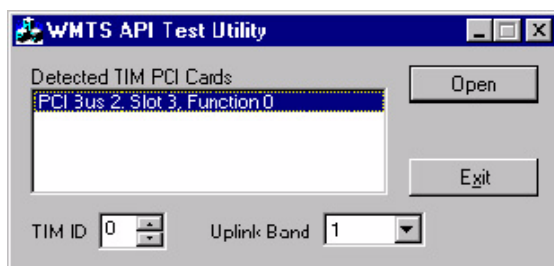

FIGURE 4-1
6. Double click on the WMTS.exe ICON. The WMTS API Test Utility will open (shown in FIGURE 4-1).